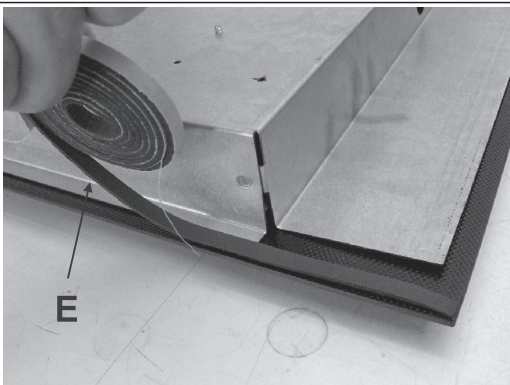

FIG. 4
- Turn the hob upside down and place the adhesive side of the seal "E" (fig. 4) correctly under the edge of the hob so that the outer edge of the seal perfectly matches the outer perimeter edge of the glass. The ends of the strips must match without overlapping.